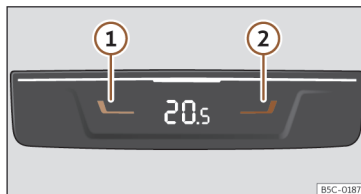

Fig. 131 In the rear part of the centre console: controls for the rear seats.
- Press buttons  and  >>> **Fig. 131** to adjust the temperature of the rear zone.